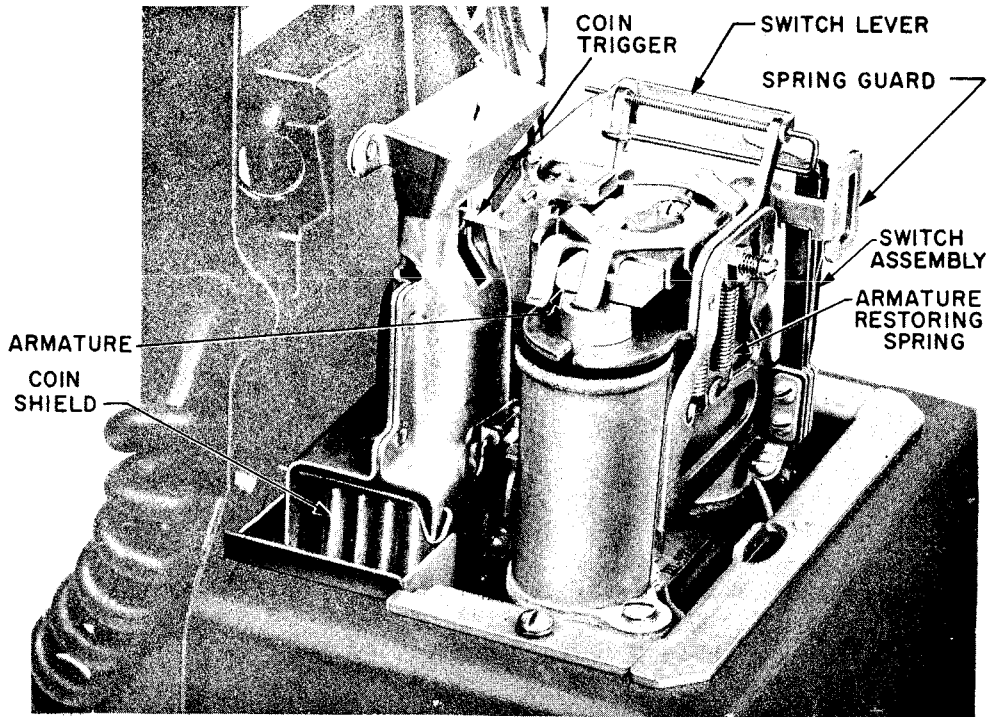
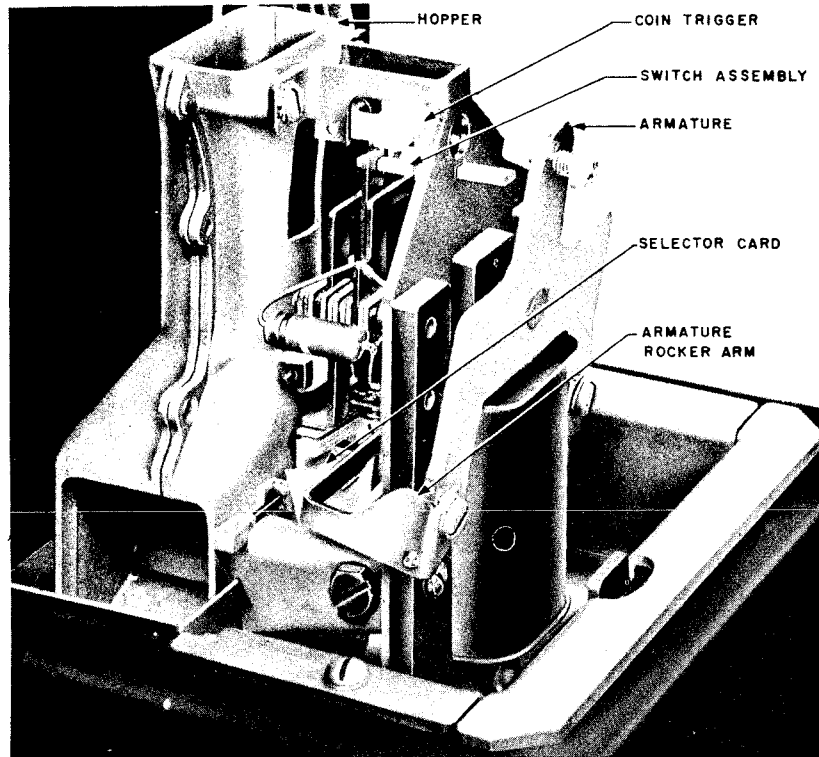

Fig. 6 - Prepay Mechanism Unit, 2-coil Coin Relay
Fig. 8 — Prepay Mechanism Unit, Single-coil, Slow-release Coin Relay
**6.01** In prepay service a deposit is required before dial tone is received or the local operator answers. Deposits are refunded if the call is not completed. The coin-relay assembly has a coin trigger which extends into the coin hopper above the coin trap (see Fig. 6 and 8). The first coin entering the hopper forces the trigger down to a tripped position. Tripping of the coin trigger operates contacts on the coin-relay switch assembly, preparing the telephone circuit for out calls.
held in its horizontal position or released in relation to the position of a coin vane. The coin vane is under the control of the coin relay which is mounted on the mechanism base, Fig. 6 and 7, or on the coin hopper, Fig. 8 and 9.
**6.12** The single-coil coin relay shown in Fig. 8 consists of a nonpolarized armature and relay coil designed for fast operation and slow re-